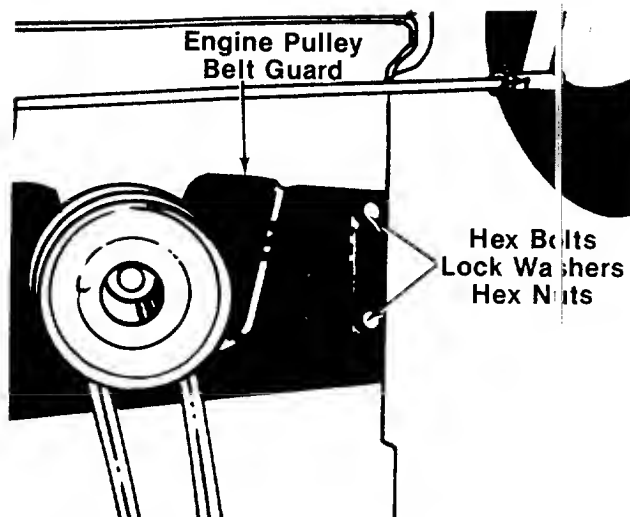

FIGURE 24.
Figures 24 through 25 are shown with the unit tipped up for clarity. It is not necessary to tip the unit to remove the belts.
5. Remove the two bolts, lock washers and nuts on each side of the frame which hold the engine pulley belt guard to the frame. See figure 24.